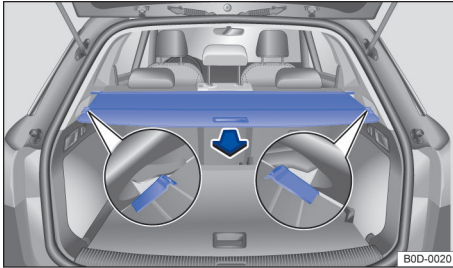

Fig. 114 In the luggage compartment: the luggage compartment cover is raised
- Grab the handle → Fig. 114 and pull back the cover so that both sides hang into the fixed slots in the luggage trim.
- Grab the handle and slightly pull the cover so that both sides of the cover come out of the fixed slots in the luggage trim and slowly roll it up. → Fig. 114